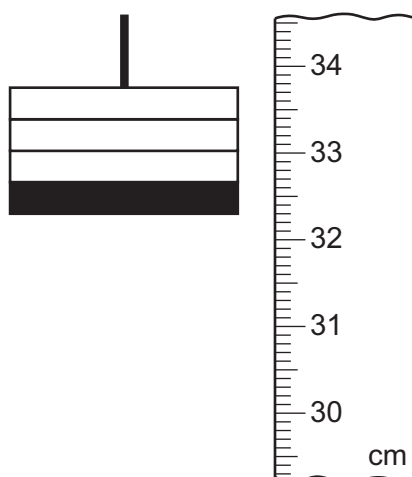

Fig. 4.3
- (i) Fig. 4.3 shows the load hanger next to the metre rule for load $L = 3.0\text{ N}$.